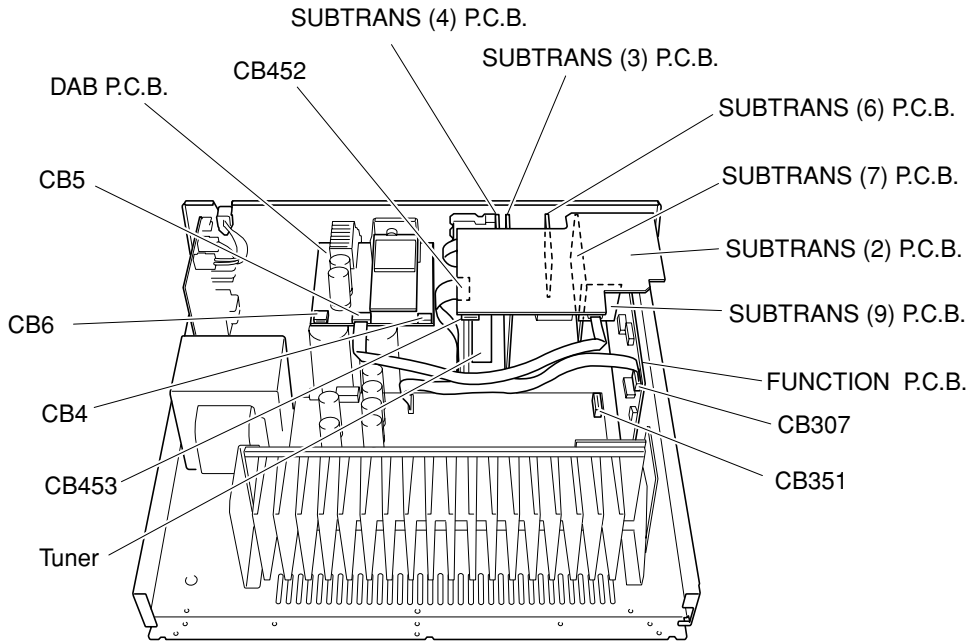

Fig. 4
**6. Removal of FUNCTION, SUBTRANS (2), (3), (6), (7), (9), DAB P.C.B.s and Tuner**
- a. Remove CB4, CB5, CB6, CB307, CB351, CB452 and CB453. (Fig. 4)
- c. Remove FUNCTION, SUBTRANS (2), (3), (4), (6), (7), (9), DAB P.C.B.s and the Tuner. (Fig. 4)